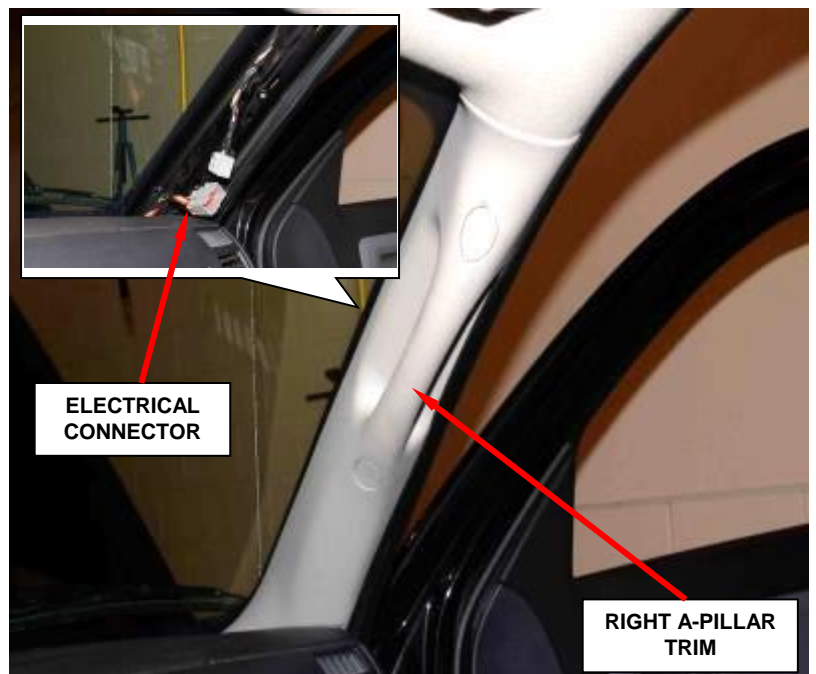

Figure 114 – A-Pillar Trim (Right Side Shown)
28. Remove the right and left side A-pillar trim (Figure 114).
29. Disconnect the right side A-pillar electrical connector (Figure 114).